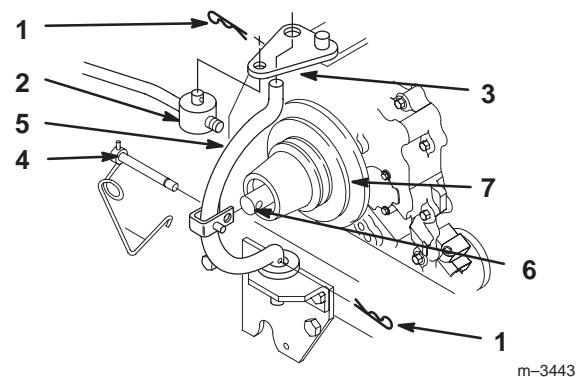

Figure 31
1. Unlatch and remove locking clevis pin that secures yoke assembly to clutch shaft. Pivot yoke out and forward to remove from clutch shaft and engagement plate (Fig. 31).
2. Replace belt in inside pulley groove (Fig. 31).
3. Assemble yoke and engagement plate and attach locking clevis pin, trunnion and hairpin cotters to secure (Fig. 31).
4. Assemble yoke and engagement plate and attach clevis pin, trunnion and hairpin cotter to secure (Fig. 31).